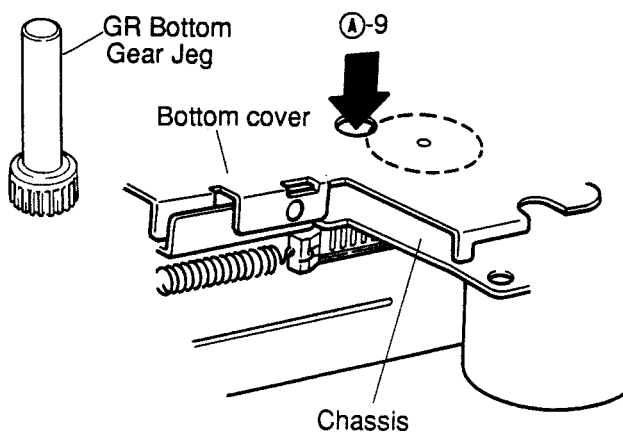

Figure 4
- (12) Since the hooks marked ①-8 will be lifted slightly as shown in Figure 4, insert the jig through the hole ①-9, and fix it turning the jig slightly.
(Refer to Figure 4 and 5.)
- (14) Insert the jig into the hole ①-9 as shown in Figure and rotate the eject solenoid counterclockwise about 20 times, pulling it in the direction ①-10 with the finger. Then the eject operation is completed. Instead of operation (14), the eject operation can be performed by mounting the mechanism to the product. (Refer to Figures 4 and 5.)